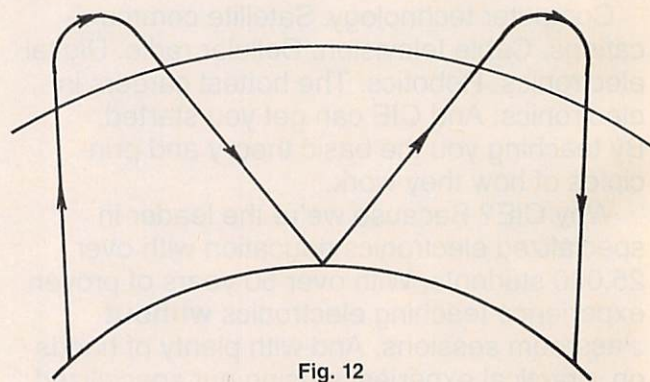

Fig. 12
For communication between two points separated by more than about 4000 km, two or more hops are required as shown in Fig. 12. The number of hops possible depends on the transmitter power and the losses at each ionospheric reflection and surface bounce.
When that is done, and the signals are added, the parts of the signal that are common to both inputs are not displayed—only the parts of the signal that are different are seen (see Fig. 12). That allows for easy comparison of the inputs.
**Fig. 12—In the add mode, the two channels are added together algebraically. If one of those channels is inverted, that mode is useful in comparing the two input signals.**